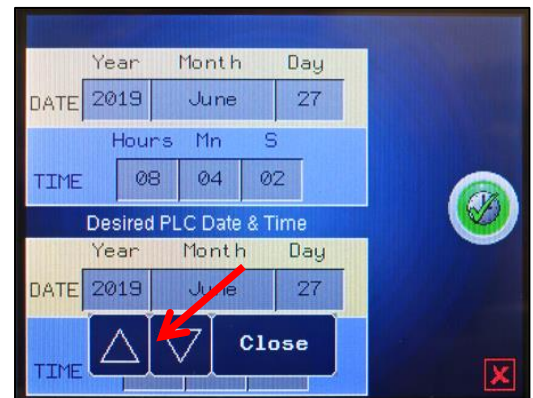

Figure 71
4. A drop-down menu now appears with up and down arrows, Fig. 71. Press either of the arrows until the desired month appears then press the **Close** button. Press the **Accept** button to accept the time change.